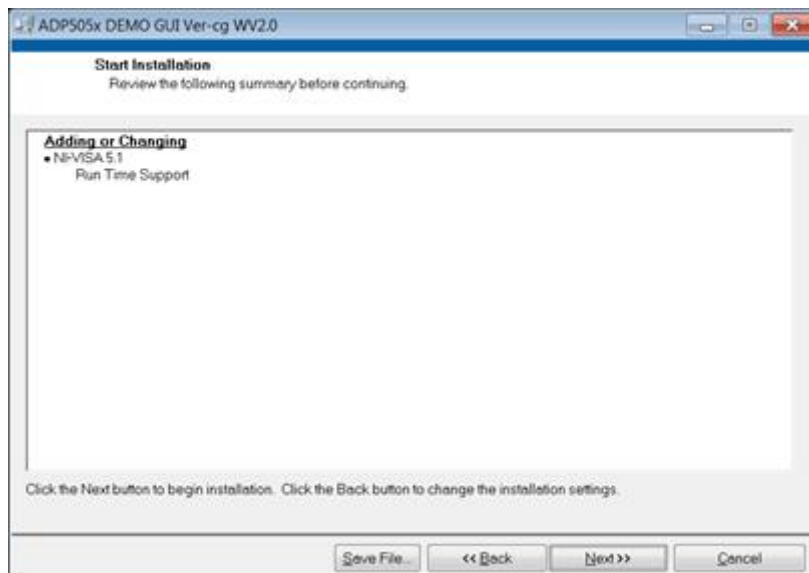

Figure 4. Select Program Folder
3. Click **Next** to install the program (see Figure 4).